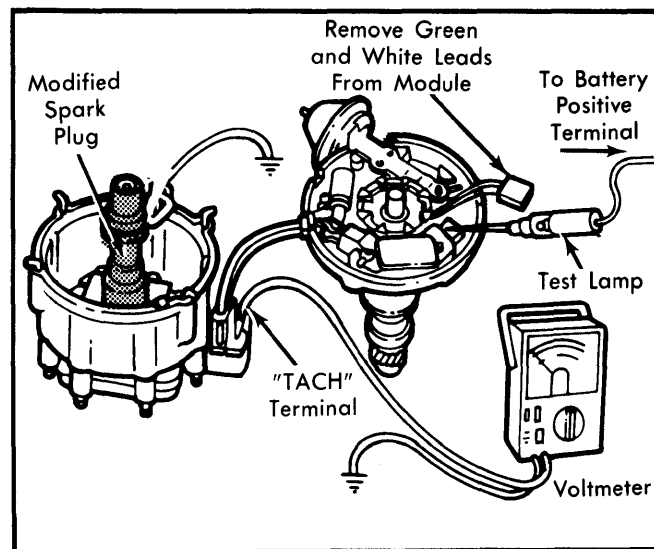

Fig. 5 Checking Distributor Components with Voltmeter and Test Light
- 5) If spark occurs, inspect cap for water, cracks, or other defects. If cap is OK, replace rotor. If no spark occurred in step 4), remove pick-up coil leads (Green and White wires) from module. Again, check voltage at "TACH" terminal of distributor cap. Attach voltmeter positive lead to terminal and negative lead to ground. See Fig. 5. Turn ignition switch on. Observe voltmeter reading as you attach test light to battery positive terminal and momentarily (no more than 5 seconds) touch other test light lead to module terminal "G" (small terminal).